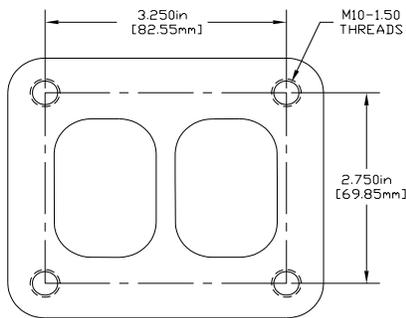

FIGURE 1
- To be used with a Turbonetics T4 or Midframe –sized turbocharger or equivalent. See figure 1.
- To give truck owners the option to install an external wastegate. See figure 1 & 2. **NOTE:** Assembly part number 11326 is delivered with a “block-off” flange, for truck owners that choose not to use a wastegate.